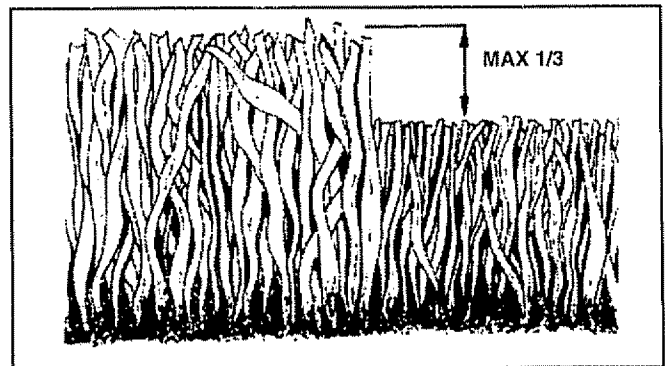

FIG. 12B
- For best results, adjust the mower cutting height so that the mower cuts off only the top one-third of the grass blades (See Fig. 12B). For extremely heavy mulching, reduce your width of cut and mow slowly.